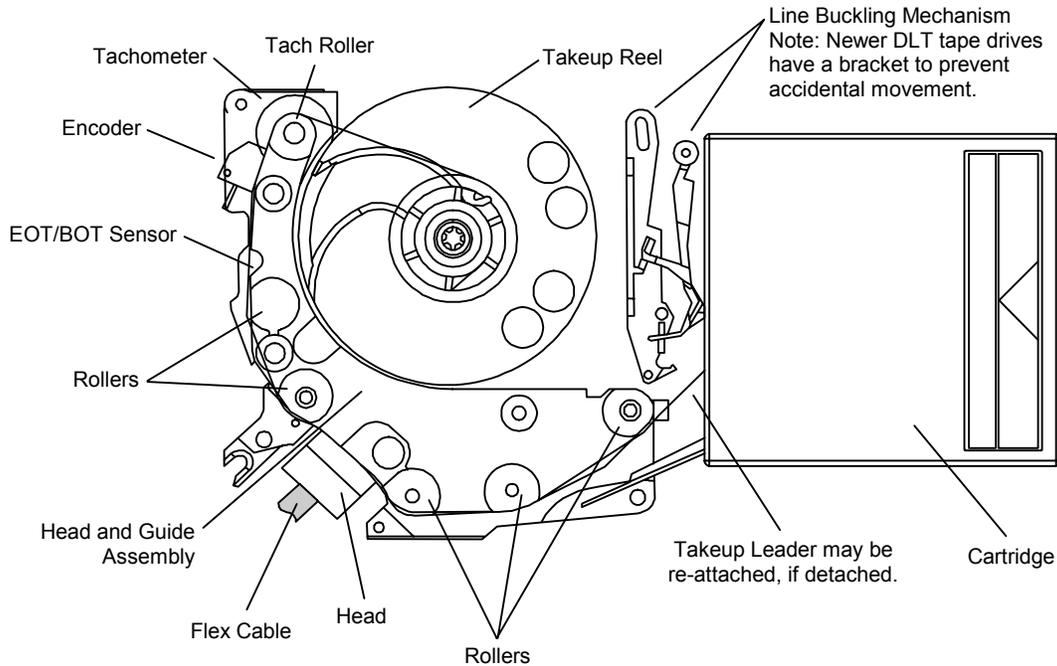

Figure 5-24 Tape Paths
9. After the plastic dust cover has been removed, gently rotate the take-up reel until the leader “Mushroom” tip is exposed (rotate clockwise). See Figure 5-24.
14. If a sticker was attached to the dust cover, use a lint free cloth pad dampened with isopropyl alcohol to remove any residue from the sticker. Replace the dust cover. On DLT 4000 models, make sure that the flex cable leading away from the Head is on the inside of the dust cover when it is attached. See Figure 5-24. Bending or crushing the flex cable can damage the wires.